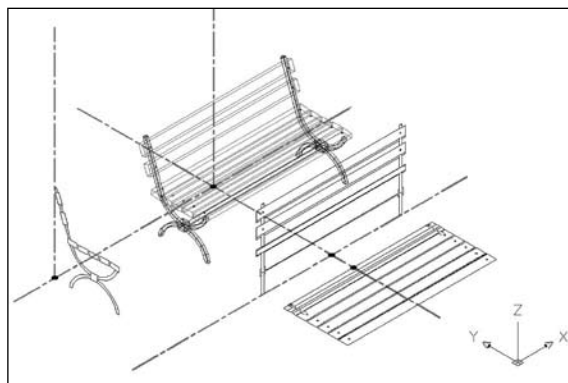

Figure 3
- 2. Draw each view of the object.** Figure 3 shows an example of the elevator drawn in plan, front, side, and 3D views.